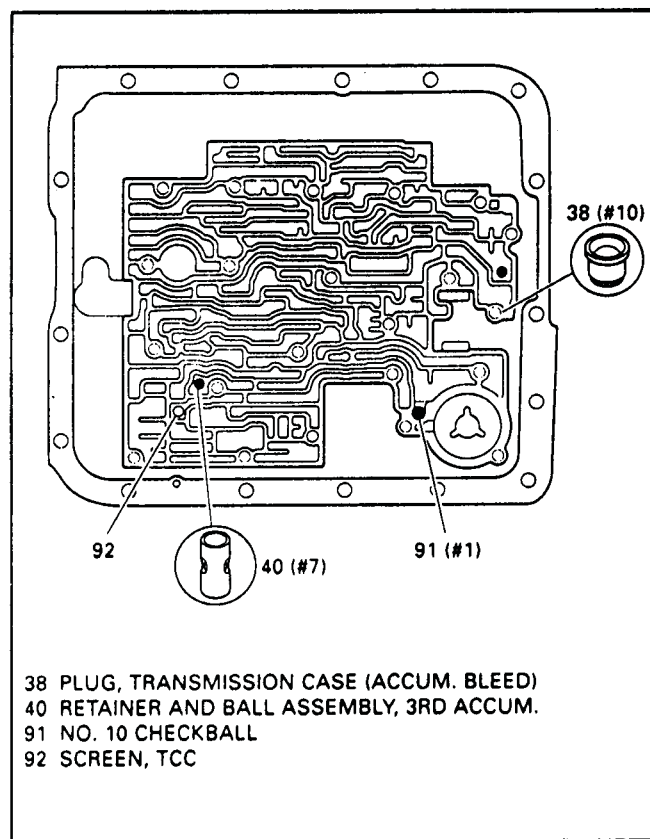

Figure 46
37. There is only one checkball located in the case, which is also .250" diameter, and its location is shown in Figure 46.